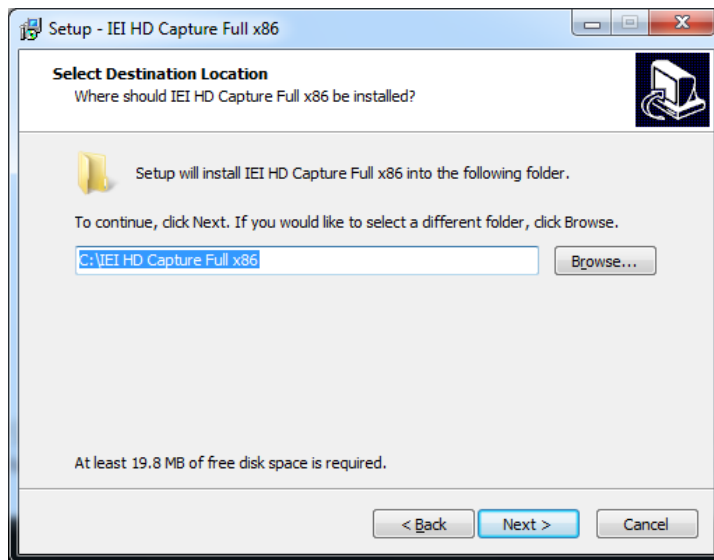

Figure 4-2: Select Installation Folder
Step 4: Select a folder for IEI HD Capture AP installation in **Figure 4-2**. Click **Next** to continue.